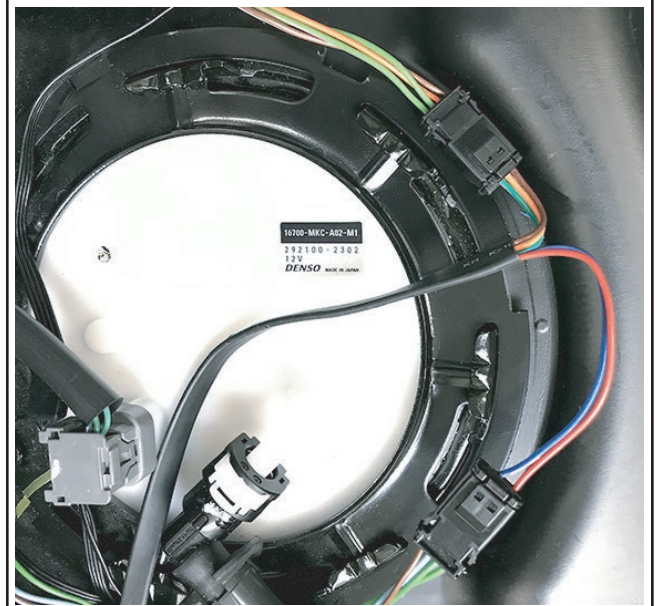

Fig.6
5. Install Goldstrike P/N 48000 (sold separately). Plug in the Goldstrike Trunk Light to familiarize yourself with connector locations, the lights, and how they function. The right side has a blue wire, left side has orange. Unplug the light and set aside. FIG.6
18. Plug the LED Trunk Light connectors into the Goldstrike P/N 48000 matching the color of the wire to the correct side. The right side has a blue wire, left side has orange. FIG.6